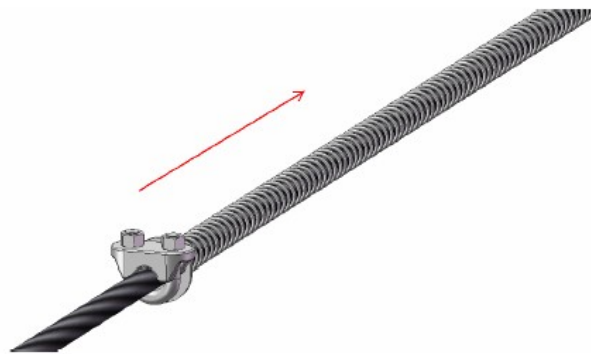

Figure 18: Compress spring
12) Compress the spring six (6) inches towards the cylinder and tighten the wireline clamp (Figure 18)